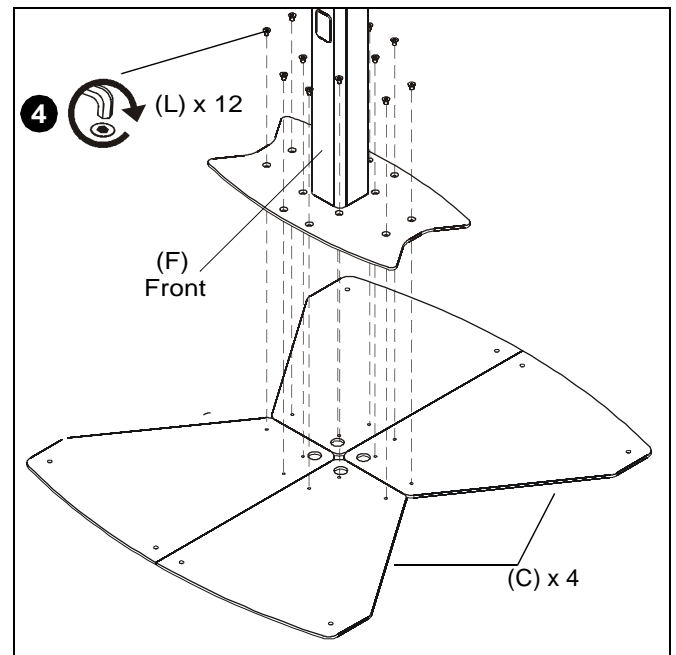

Figure 7
- Place top base section and center post assembly on top of the four base pieces. (See Figure 7)
- Fasten lower base pieces to top base section and center post assembly using twelve 5/16-18 x 1/2" flat head cap screws (L). (See Figure 7)